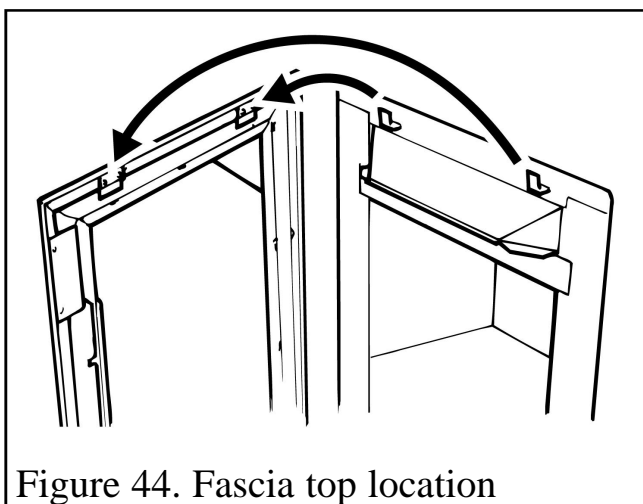

Figure 44. Fascia top location
4. **Make sure that the control linking bar has been detached (See 2 above).** Carefully lift the fascia unit upward to clear the upper retaining brackets on the hotbox (See figure 44). Pull the fascia clear and place carefully aside.